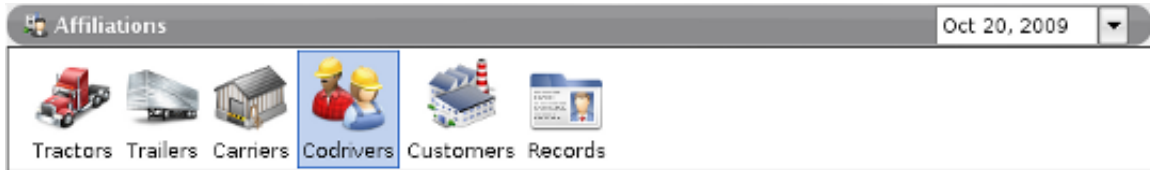

Figure 5.10. Co-Driver Navigation Item
2. Select the "Co-Driver" affiliations navigation item see Figure 5.10, "Co-Driver Navigation Item".